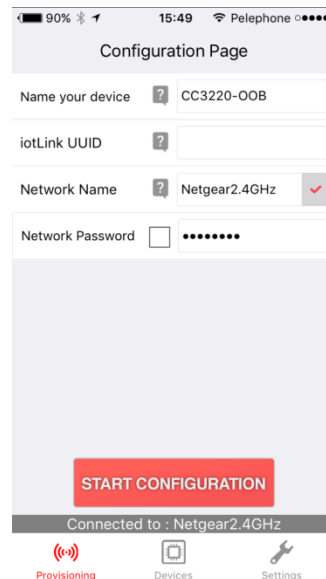

Figure 15. Wi-Fi Starter Provisioning Tab
2. Navigate to the provisioning tab to configure the AP credentials. Click on the START CONFIGURATION button to start the process (see Figure 15).